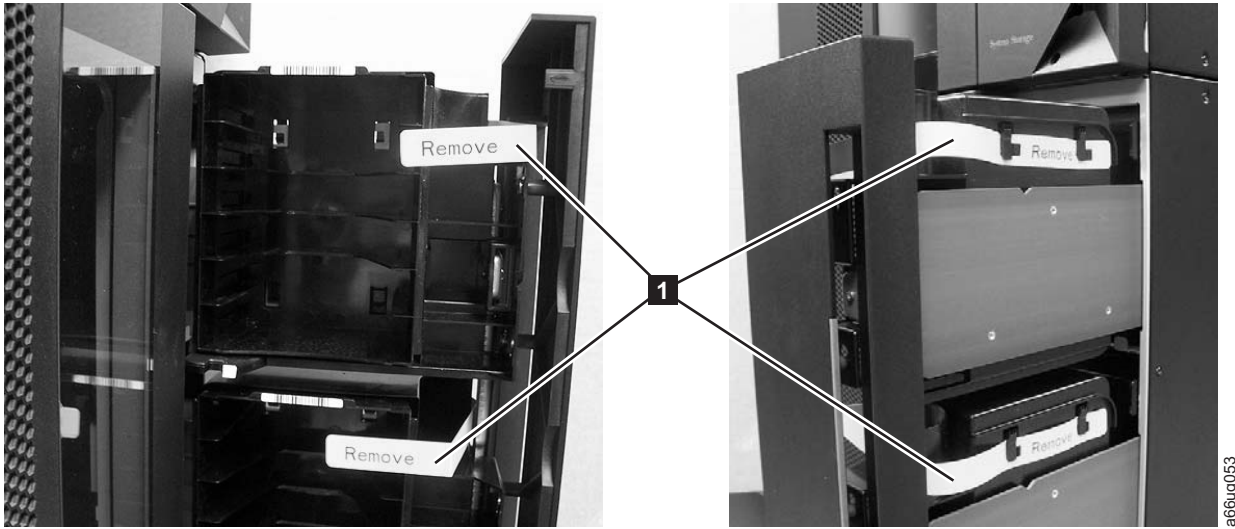

Figure 3-2. Yellow ribbon-like packing pieces
5. Remove the yellow ribbon-like packing pieces ( **1** in Figure 3-2) from around the I/O Station magazines.